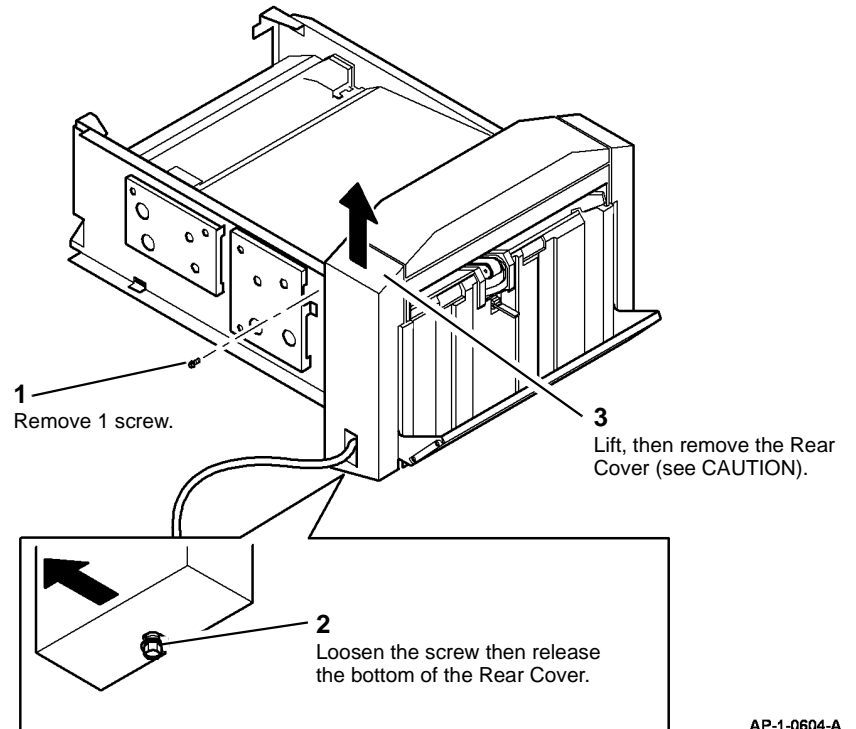

Figure 2 Removing the Rear Cover
5. Remove the Rear Cover (Figure 2).